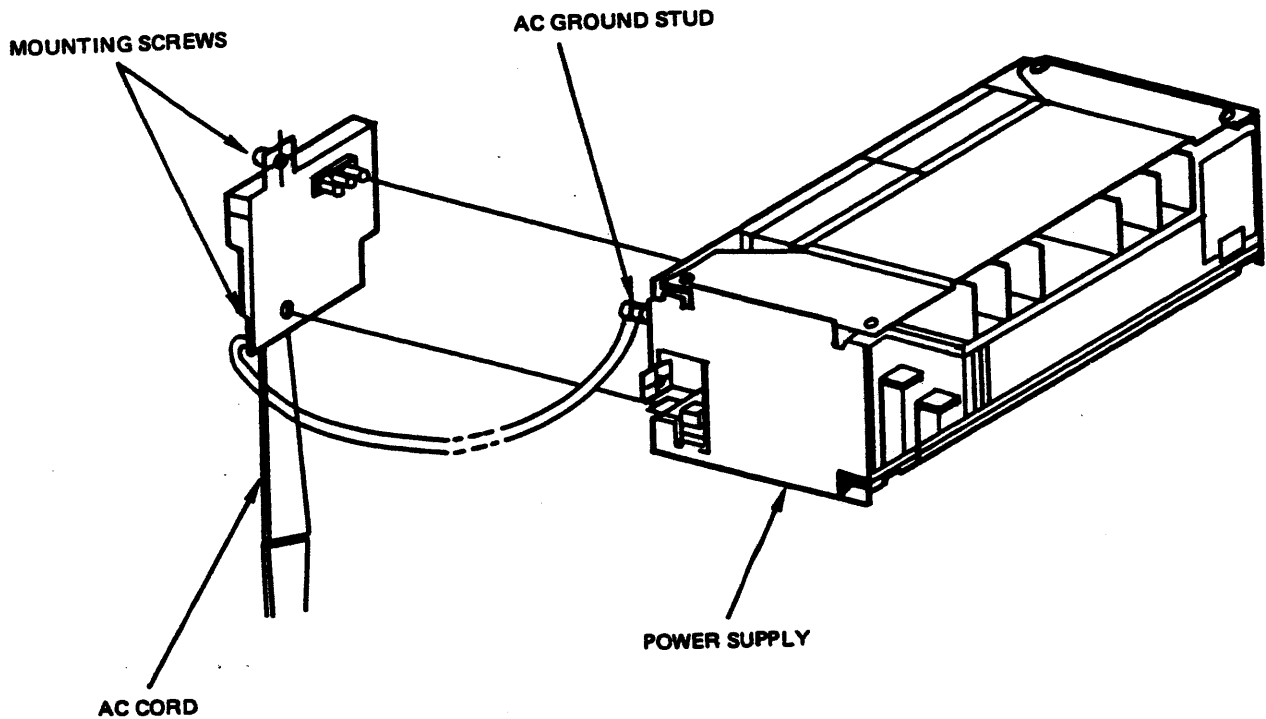

Figure 4-3 Power Supply AC Cord Connection
2. Check the setting of the 5-volt adjustment control on each power supply in accordance with subsection 3.3.6.3. Disconnect one power supply at a time from the ac supply by disconnecting the ac cord from the back of the power supply (see Figure 4-3), and disconnecting the white plastic plug on the power supply, located behind the ac cord assembly. Proceed to step 4.